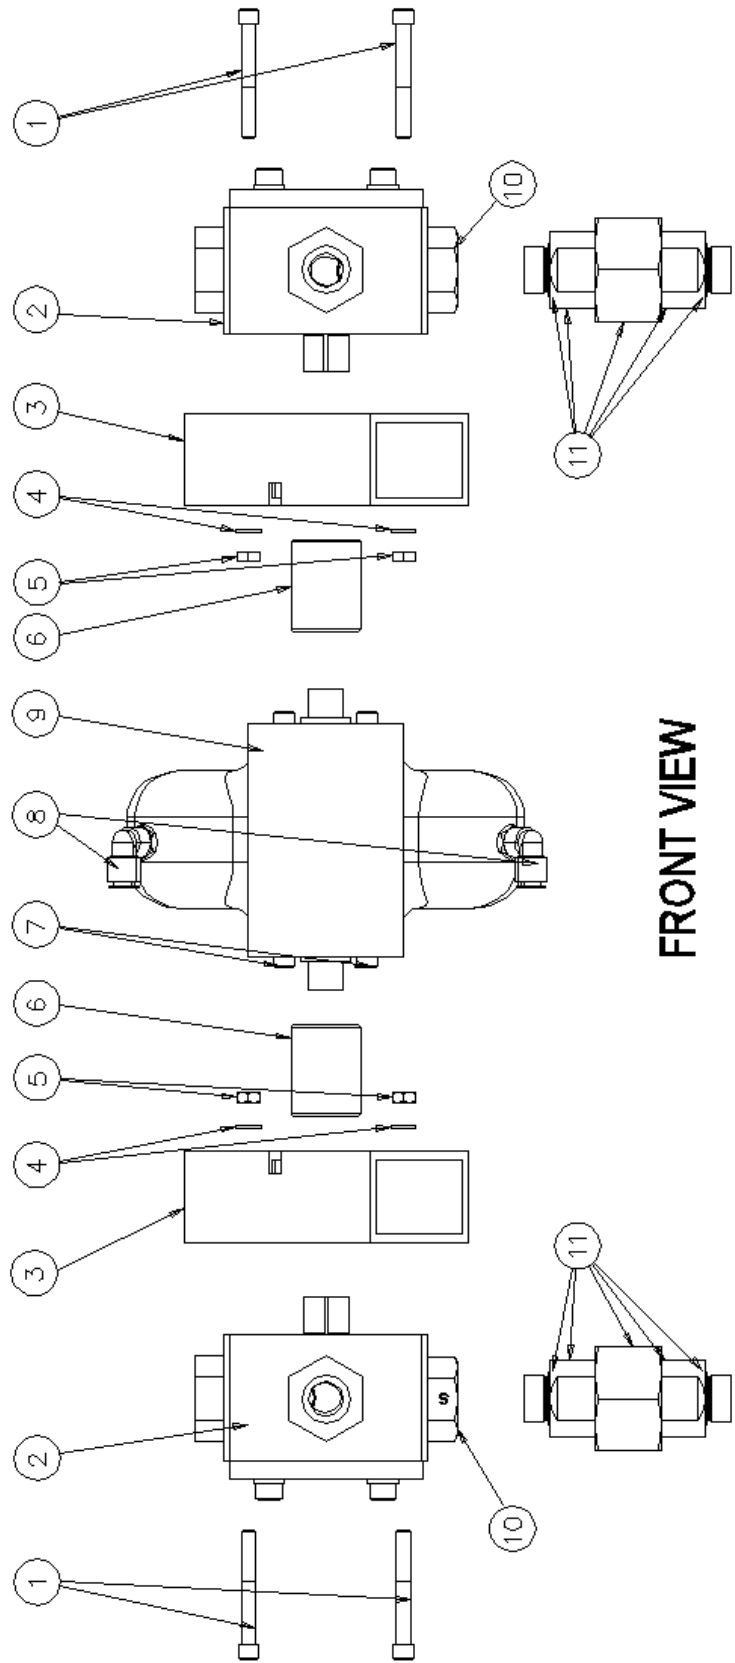

Fig. 12
See Fig. 12
See **Fig. 12** item 10 for Part number. Refer to 4-Way Valve Repair section of this manual.